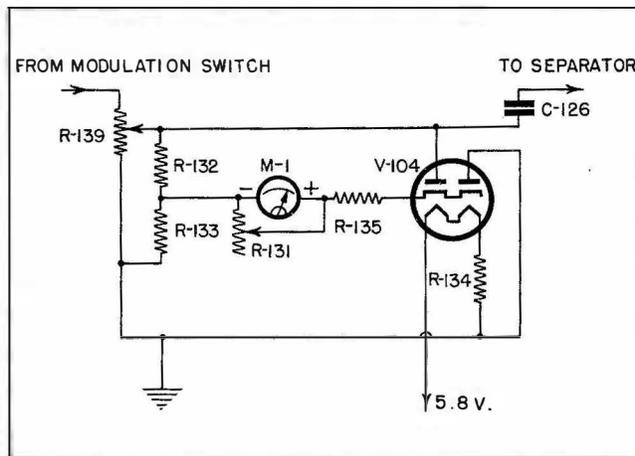

Figure 4-6—Schematic Diagram of the Modulation V-T Voltmeter
a. The percentage modulation of the carrier frequency is determined by the modulation voltage applied to the control grid of the Separator Tube (V-102). This modulation voltage is taken off the 10,000-ohm MODULATION potentiometer (R-139) and measured with the Modulation V-T Voltmeter shown in Figure 4-6.